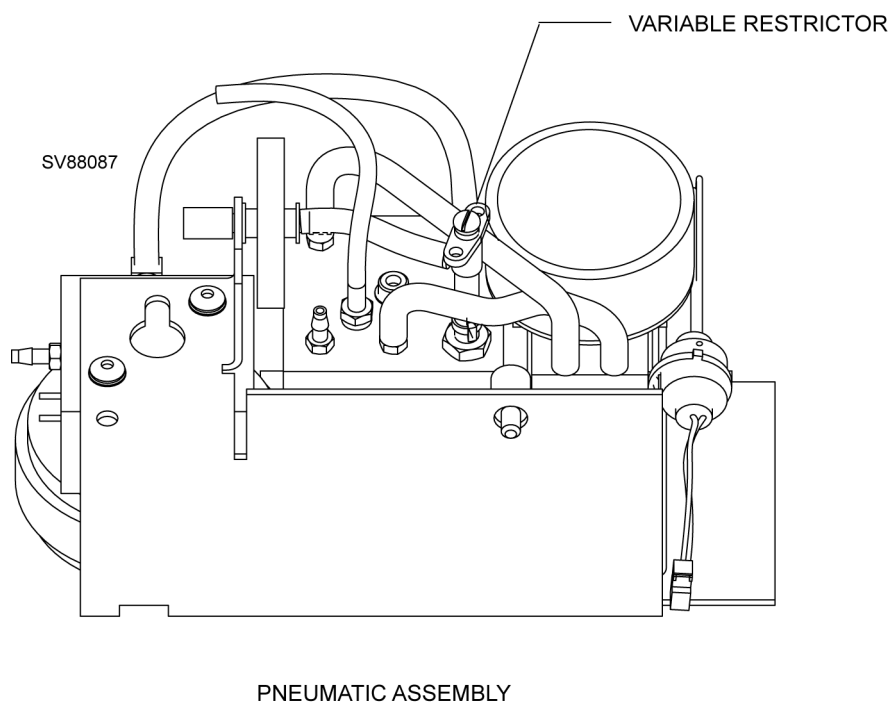

Figure 11 Vacuum Adjustment
4. Adjust the variable restrictor on the pneumatic assembly (see Figure 11) until the vacuum is between -150 and -240 cmH₂O (mbar) as shown on the digital manometer.